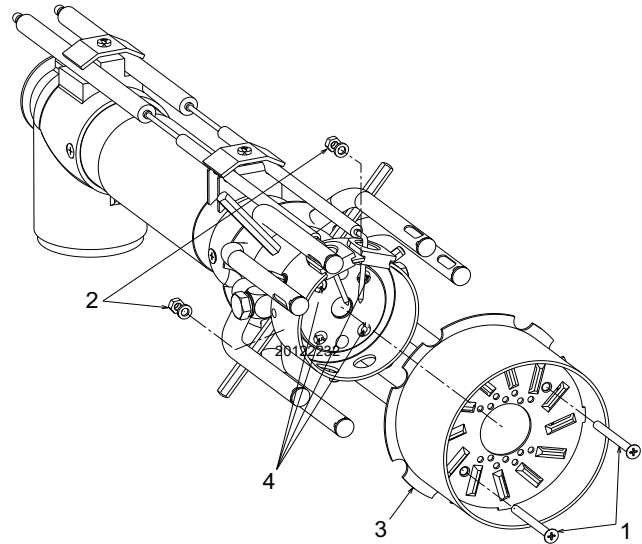

Fig. 22
- unscrew screws 1)(Fig. 22) and nuts 2);